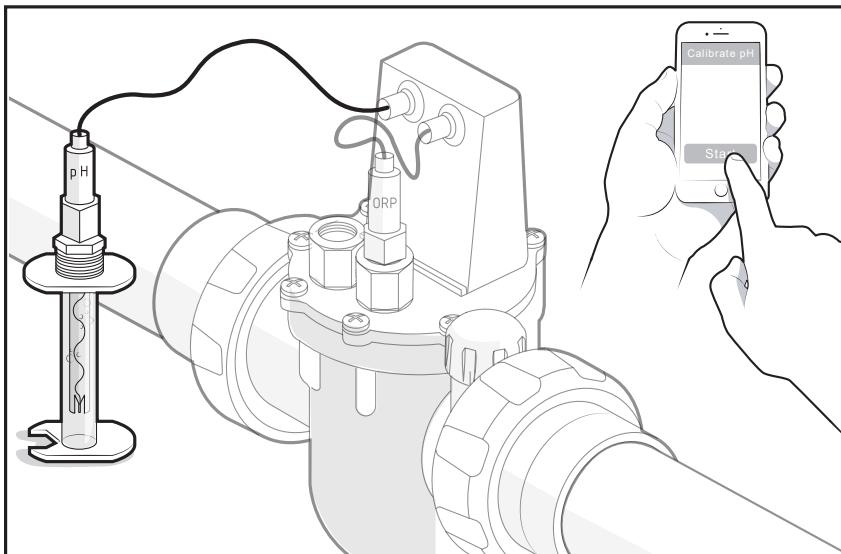

Figure 9. Submerge sensor & start calibration
15. Submerge the pH sensor in the pH 4 buffer solution inside the storage tube. Start the pH4 calibration in the iAquaLink app or on the OneTouch controller (AquaLink® RS only) go to: MENU / HELP > SYSTEM SETUP > TRUSENSE, see Figure 9.